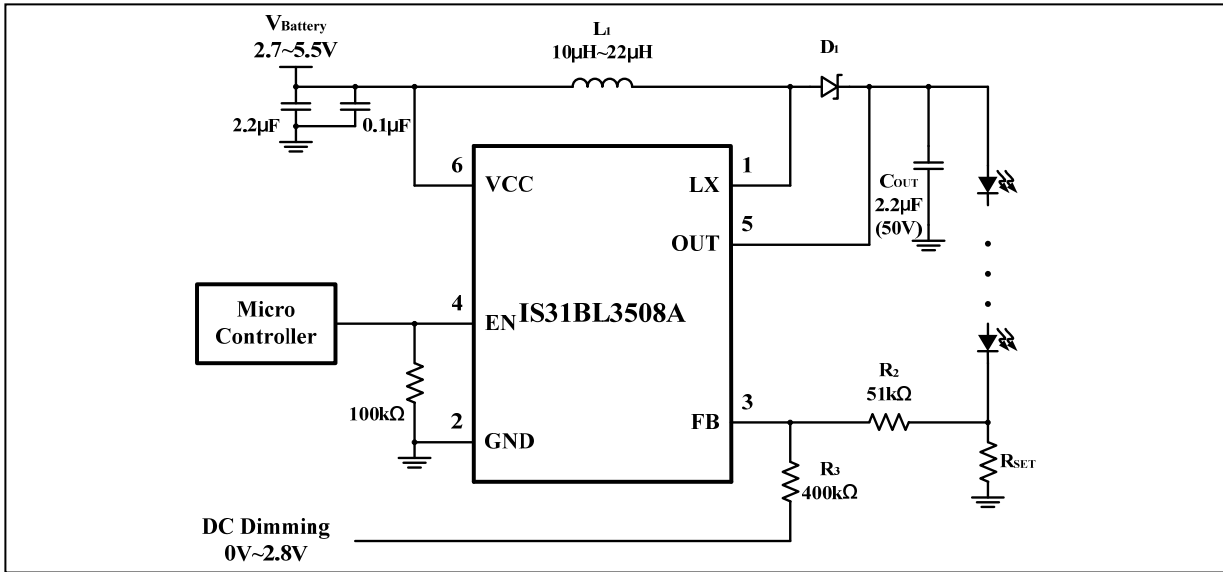

Figure 5 Constant Output Current With DC Dimming Input
The schematic of Figure 5 shows an example of using a DC input voltage at the FB pin to implement LED dimming. When the DC input voltage increases, the current through R₂ and R₃ increases producing an offset voltage across R₂, thereby causing the LED current to be reduced. The LED current may be computed using the following Equation (3). V_{FB} is 0.3V (typ).